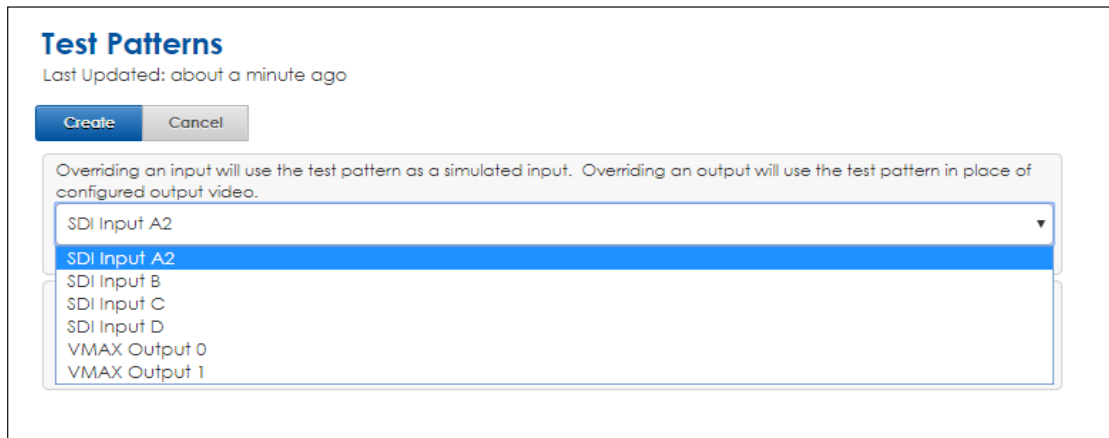

Figure 75: Test Pattern as Input or Output
2. Choose where the test pattern is inserted in the signal path. The test pattern can be used to override an input or override an output. Refer to **Figure 75**.